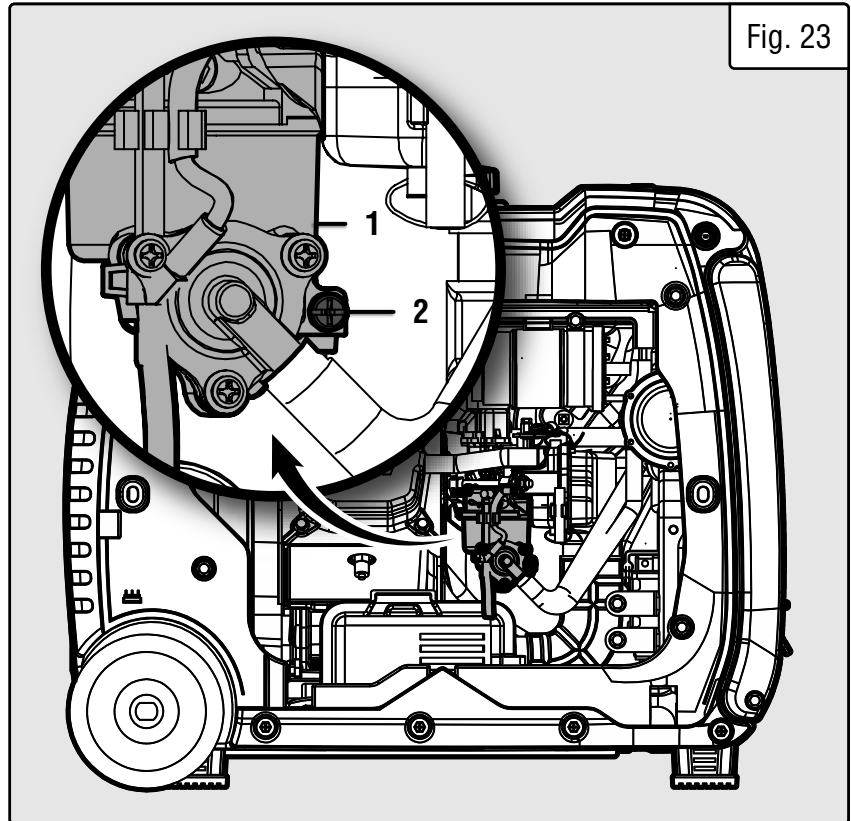

Fig. 23
4. The carburetor (Fig. 23 - 1) can be accessed between the engine and the air filter. Locate the transparent tube from the carburetor that extends down through the base plate of the generator.
6. Open up the carburetor drain screw (Fig. 23 - 2) with a Phillips-head screwdriver and drain out any gasoline that has built up inside the carburetor through the drain tube into the approved gasoline-storage container.